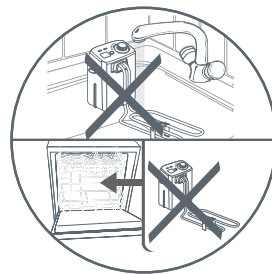

Fig. 4
- **Do not immerse the control unit with the heating element in water – fig. 4.**